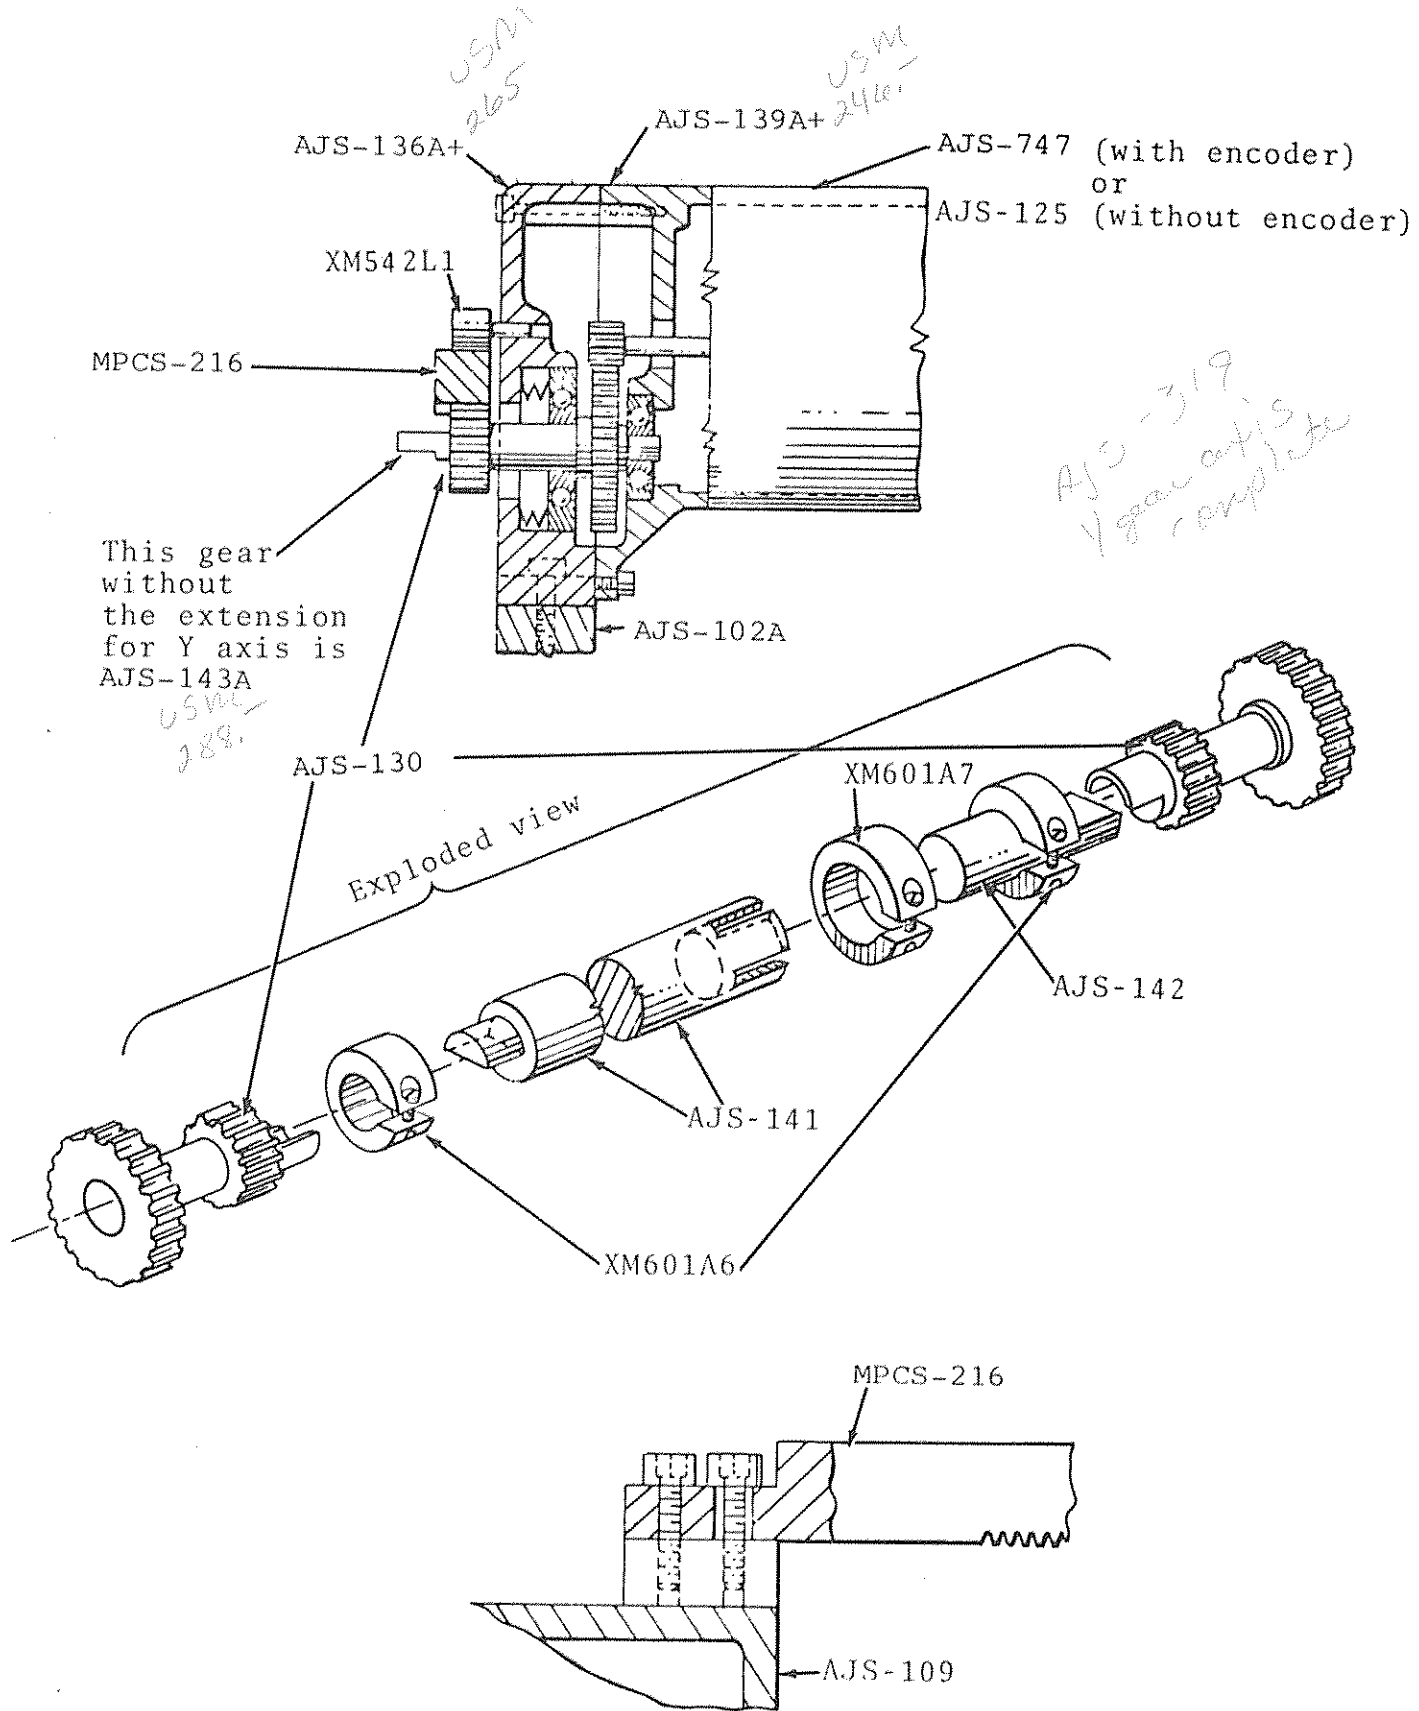
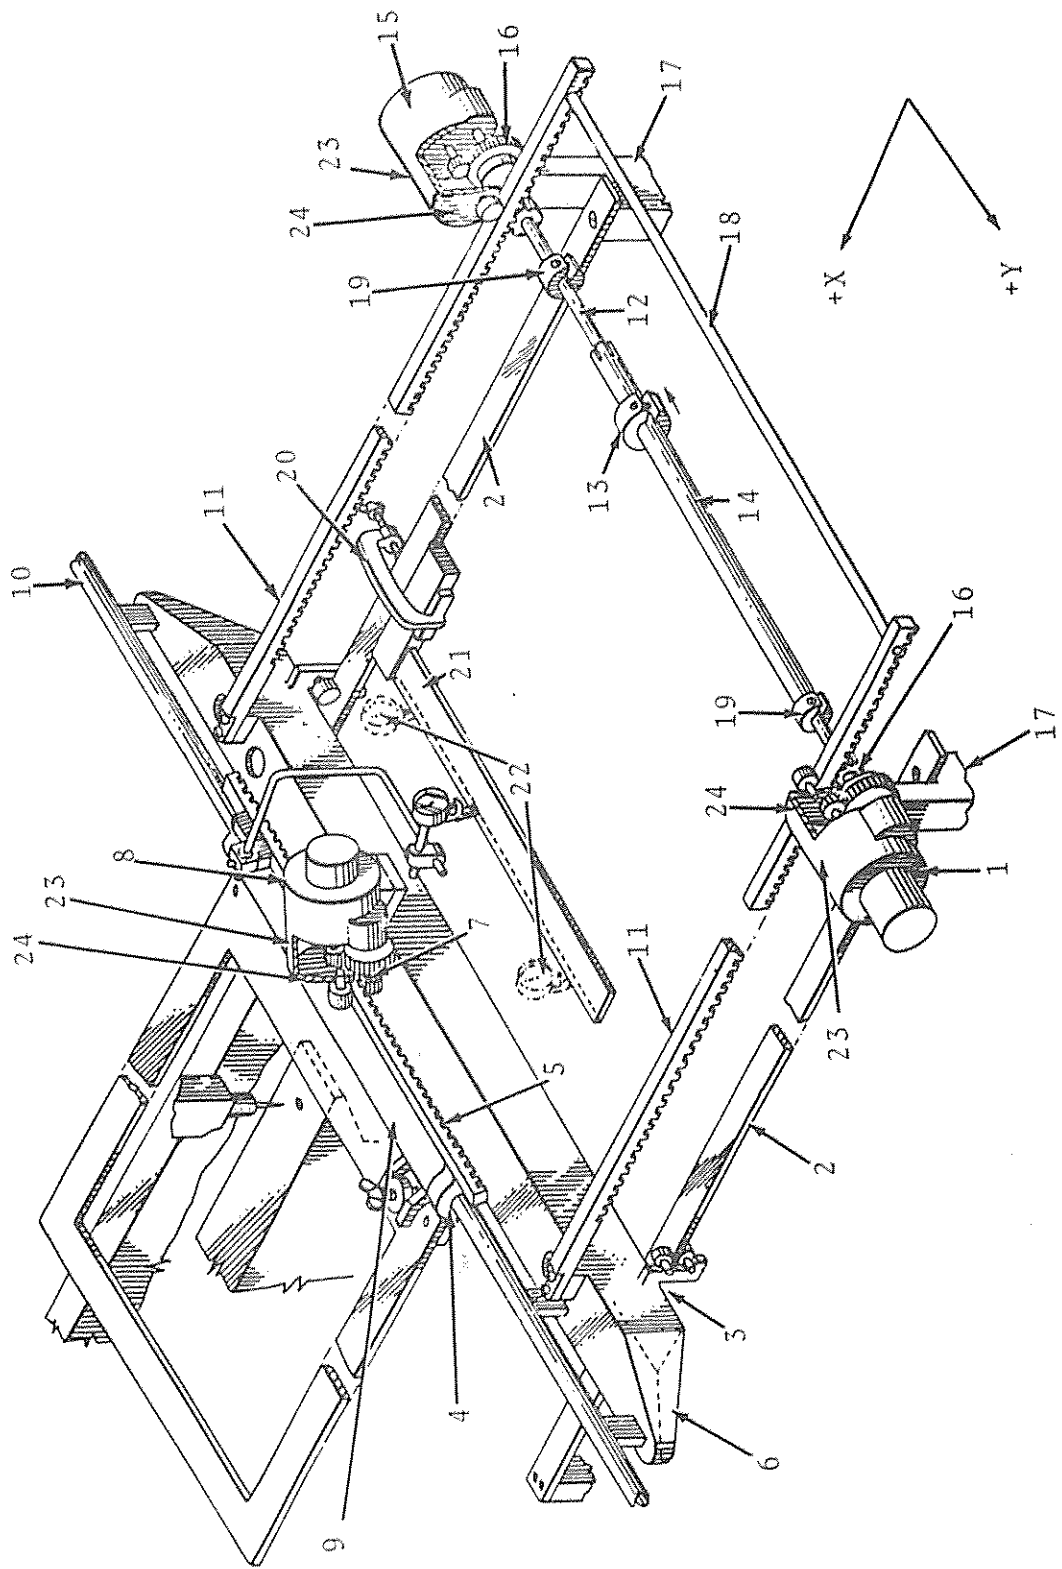

Figure E.2
Figure E.3
6. Attach the two servo motor and gear housing assemblies to the motor brackets (AJS-102A). Only one of the "X" axis servos has an encoder. See Fig. E.3 for the location of that unit. Connect the output shafts (AJS-130) of the two gear housings with the cross shaft assembly as shown in Figs. E.2 and E.3. Leave the middle collar (XM601A7) loose. (See Note under 1.)
9. Engage the "X" axis racks with the output gear housing pinions and attach the ends of the racks to the carrier. The connections at the carrier should be loose enough to allow the racks to pivot a small amount. (See Fig. E.2.) Loosely connect the spacer (AJS-134+) to the other ends of the racks. (See Note under 1.)
LEGEND FOR FIGURE E.3